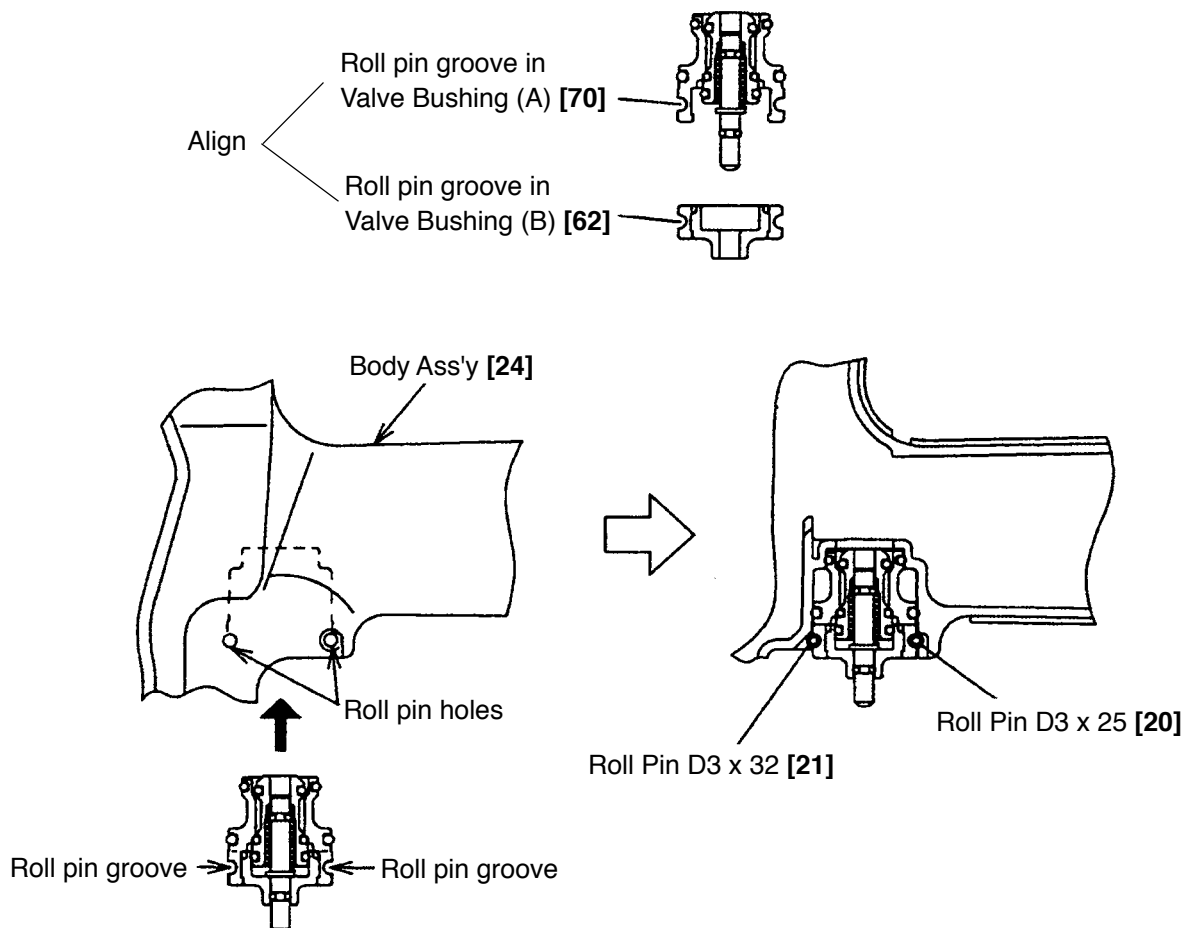

Fig. 18
- First, align the roll pin groove of Valve Bushing (A) [70] with that of Valve Bushing (B) [62] and reassemble the entire control valve unit as shown in Fig. 18. Then install the control valve unit so that the roll pin grooves in the control valve unit will be aligned with the roll pin holes in the Body Ass'y [24]. First, insert the roll pin puller (3 mm dia.) into the roll pin holes. Then, upon confirming that the puller passes through the hole, drive in the Roll Pins D3 x 25 [20] and D3 x 32 [21].